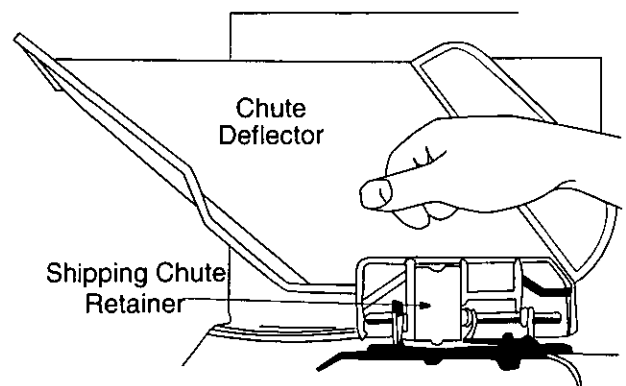

Figure 9
- The chute deflector on your mower is held in an upright position by a retainer for shipping purposes only. This shipping retainer must be removed and discarded before the mower is put into operation. See Figure 9. To remove the shipping chute retainer, move the spring-loaded chute toward the engine by pushing above the retainer. Remove the retainer and carefully lower the chute into operating position. Tighten bolts securely.